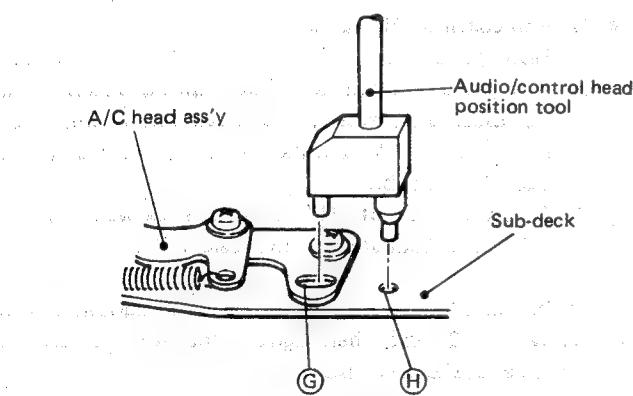

Fig. 2-55
7. Set the audio-control head position tool (PUJ44653) as shown in Fig. 2-55.